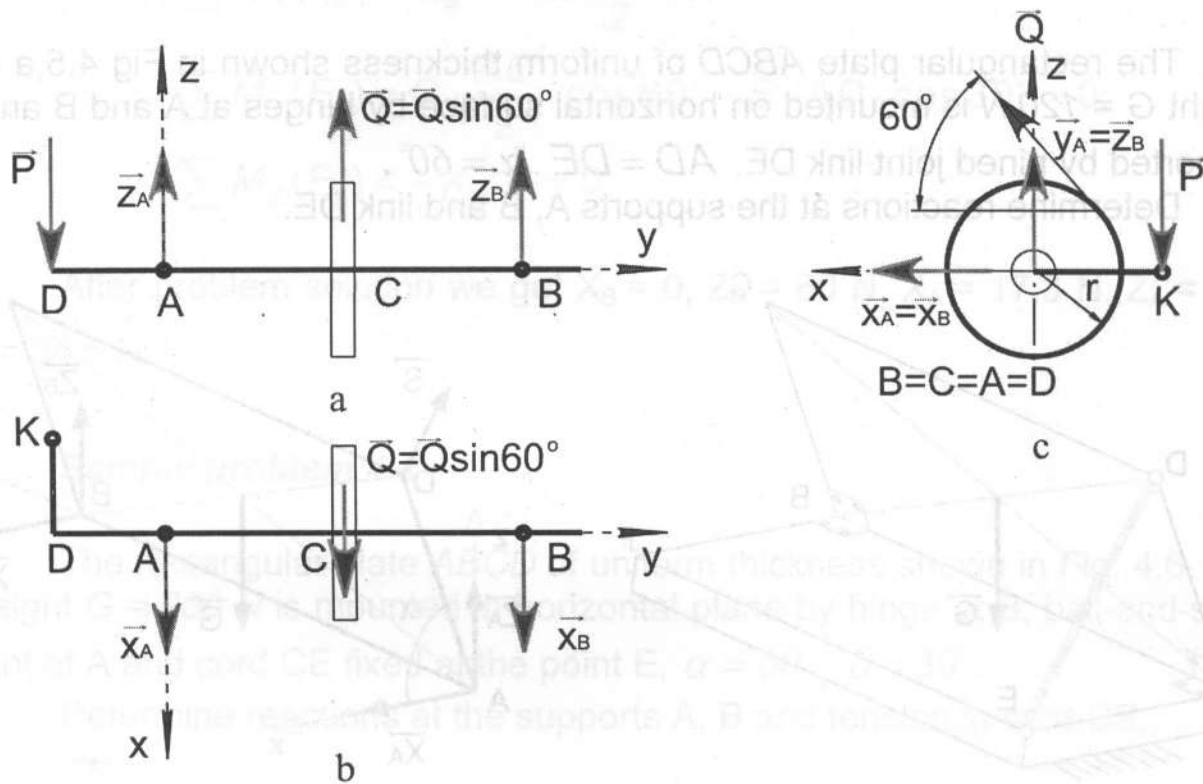

Fig. 4.3
A winch supported by bearings **A** and **B** holds the 1-kN load **Q** in the position shown in the Fig. 4.3, a. A cable is tangent to the drum  $r = 0.05 \text{ m}$  and forms the angle  $\alpha = 60^\circ$  with the horizontal plane. Length of the handle **KD** is  $0.4 \text{ m}$ ,  $AD = 0.3 \text{ m}$ ,  $AC = 0.4 \text{ m}$ ,  $CB = 0.6 \text{ m}$ .
1. FBD (Fig. 4.3, b). The winch is at the state of equilibrium. Applied forces are unknown force **P** and tension **T** that is equal to the weight **Q** of the load if we neglect friction in the block. Motion of the winch is restricted by two bearings so reactions are the following: two forces at the bearing **A**  $\vec{X}_A, \vec{Z}_A$  and two forces  $\vec{X}_B, \vec{Z}_B$  at the bearing **B**. The force system acting on the winch is general three-dimensional. Let us choose coordinate system **Axyz**, axis **Ay** coincides with the axis of winch.